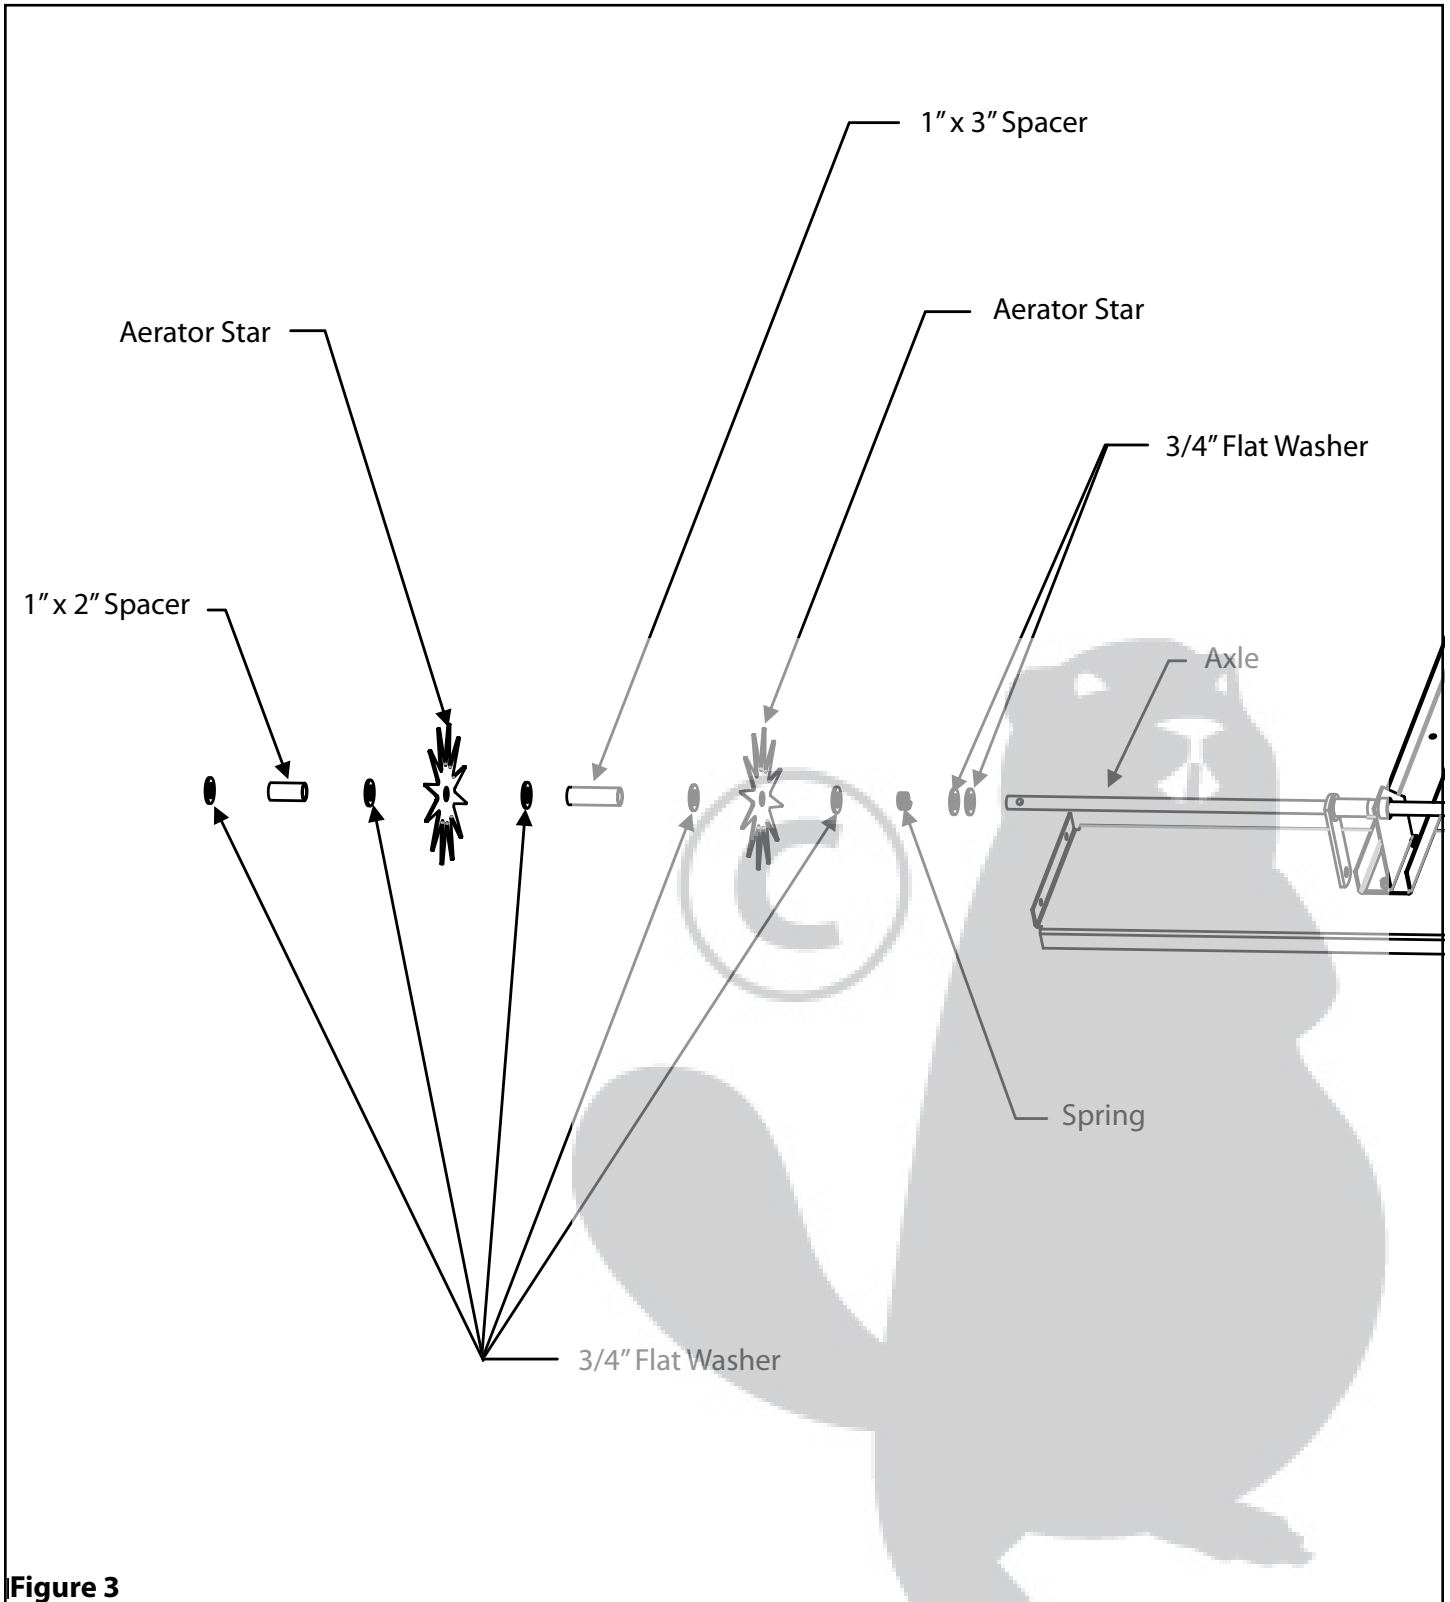

Figure 3
3.. On the short side of the Axle, place two 3/4" Flat Washer onto the Axle, followed by an Axle Spring and then another 3/4" Flat Washer, followed by an Aerator Star and then another 3/4" Flat Washer onto the Axle. Place a 1" x 3" Spacer onto the Axle, a 3/4" Flat Washer another Aerator Star and another 3/4" Flat Washer repeat this process three more times. Now place a 1" x 2" Spacer onto the Axle followed by another 3/4" Flat Washer. See Figure 3.